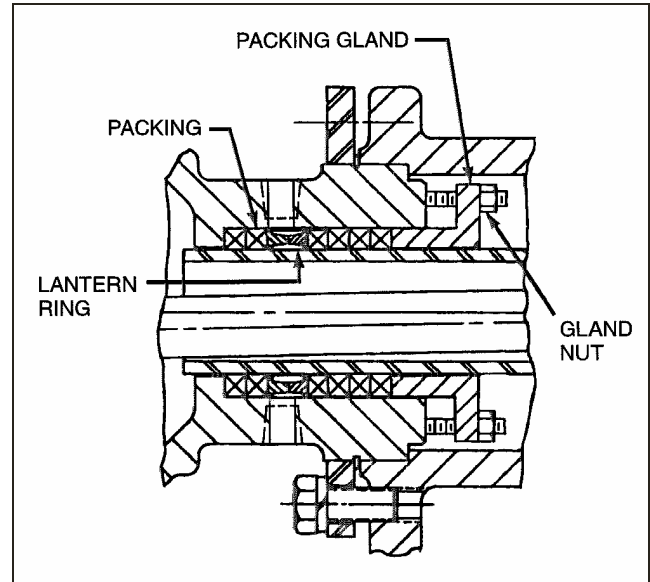

Figure 4-1. Cross Section of Stuffing Box
Packing gland nuts should be evenly adjusted so they are little more than finger tight (See Figure 4-1). Over-tightening of the packing gland may result in premature packing failure and possible damage to the shaft and gland.
6. Replace packing gland (21) and secure with packing gland nuts. (See Figure 4-1.)